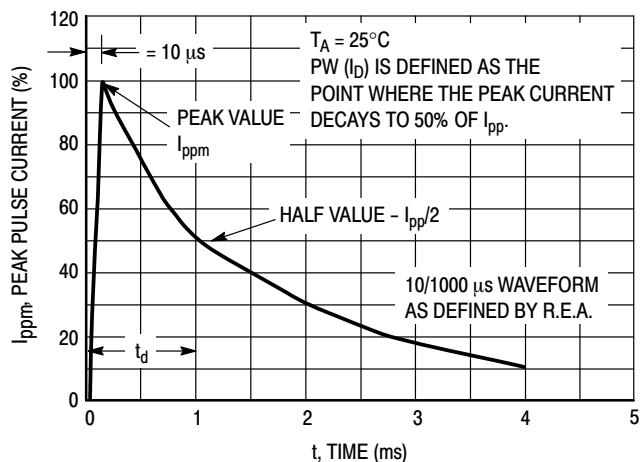
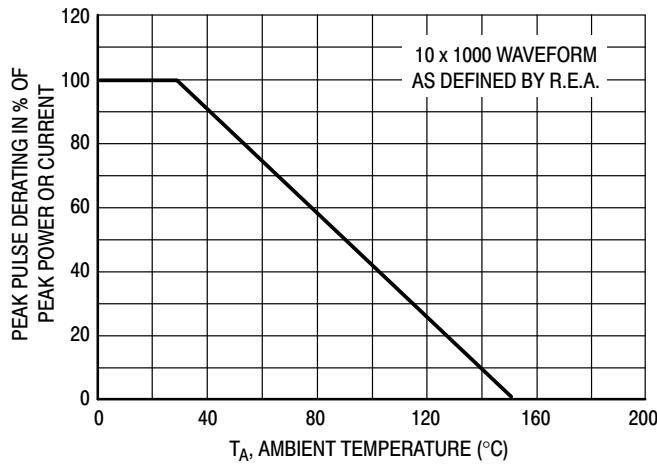

Figure 2. Pulse Waveform
Figure 3. Pulse Derating Curve
6. Surge current waveform per Figure 2 and derate per Figure 3